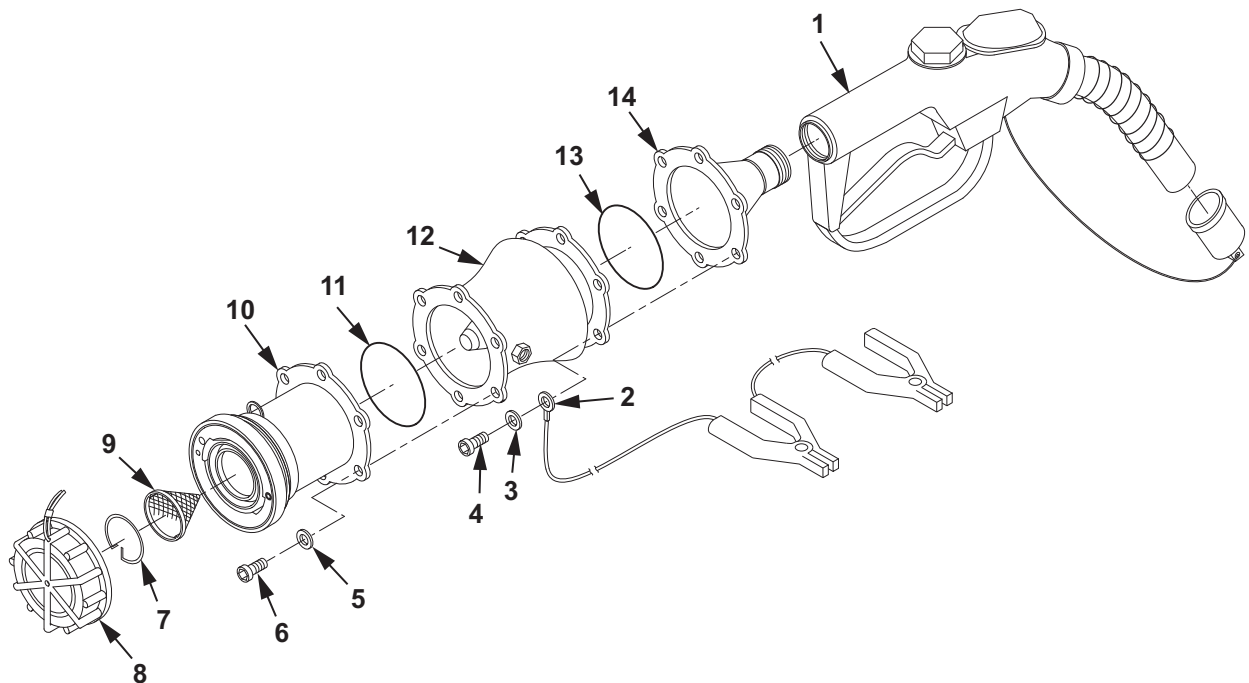

Figure 2. 1 In. Fuel and Oil Servicing Nozzle Assembly.
1. Install strainer (Figure 2, Item 9) in quick disconnect coupling half (Figure 2, Item 10).
2. Install snap ring (Figure 2, Item 7) in quick disconnect coupling half (Figure 2, Item 10).
3. Install dust cap (Figure 2, Item 8) on quick disconnect coupling half (Figure 2, Item 10).
4. Apply teflon tape to threads of nozzle adapter (Figure 2, Item 14).
5. Install nozzle adapter (Figure 2, Item 14) into nozzle (Figure 2, Item 1).
6. Using an assistant to hold the nozzle (Figure 2, Item 1), use a strap wrench to tighten nozzle adapter (Figure 2, Item 14).
7. Install new O-ring (Figure 2, Item 13) on nozzle adapter (Figure 2, Item 14) flange.
8. Align holes in hose end control valve (Figure 2, Item 12) with mounting holes in nozzle adapter (Figure 2, Item 14).
9. Install six screws (Figure 2, Item 4), washers (Figure 2, Item 3) and ground cable ring (Figure 2, Item 2) to attach hose end control valve (Figure 2, Item 12) to nozzle adapter (Figure 2, Item 14). Tighten screws (Figure 2, Item 4).
10. Install new O-ring (Figure 2, Item 11) on quick disconnect coupling half (Figure 2, Item 10) flange.
11. Align holes in quick disconnect coupling half (Figure 2, Item 10) flange with mounting holes in hose end control valve (Figure 2, Item 12).
12. Install six screws (Figure 2, Item 6) and washers (Figure 2, Item 5) to attach quick disconnect coupling half (Figure 2, Item 10) to hose end control valve (Figure 2, Item 12). Tighten screws (Figure 2, Item 6).